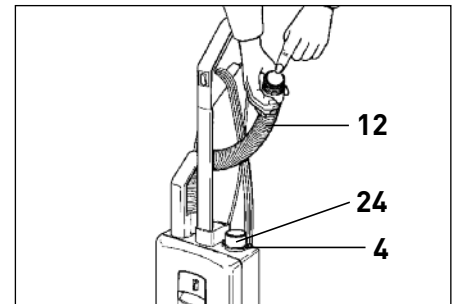

Figure 14
Clogs in the Attachment Hose - Figure 14
Remove attachment hose (12) from vacuum cleaner (see figure 14) and remove front cover (7). Clean out connecting tube (24) and/or entrance to bag (40).